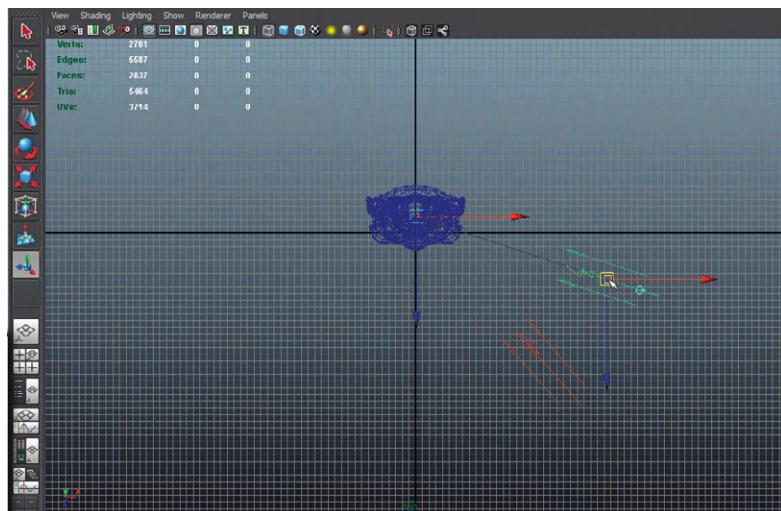

FIG 7.47 Using the Show Manipulator Tool to position a light.
Step 6: In the top View Panel, activate the Show Manipulator Tool (activated in Fig. 7.47). There will appear two manipulation handles (one for the instrument itself and one for the target point). Move the target handle, so that it sits in the middle of the alien. Then move the instrument a little bit around the alien.